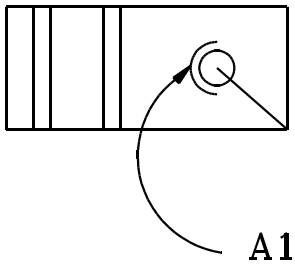

Figure 6
21. Click on A1, then type <Page Up> .375, followed by ENTER. (See Figure 6.)